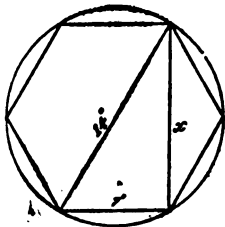

Fig 238. Problem of the hexagon
This gives us the arrangement shown in Fig. 238, in which our problem is confined to the right-angled triangle whose base is seven and hypotenuse fourteen. From our knowledge of triangles, we deduct the square of seven (49) from the square of